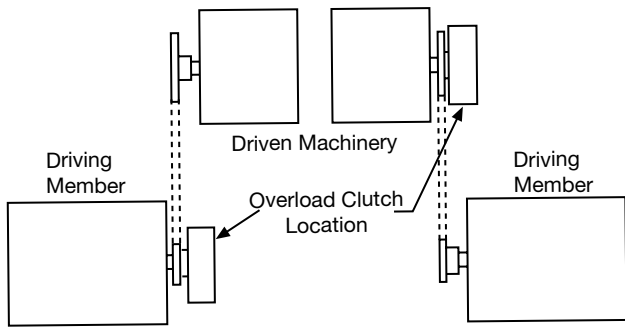

Figure 11
- a. Either location of the clutch shown in Figure 11 is preferred in indirect drive applications.